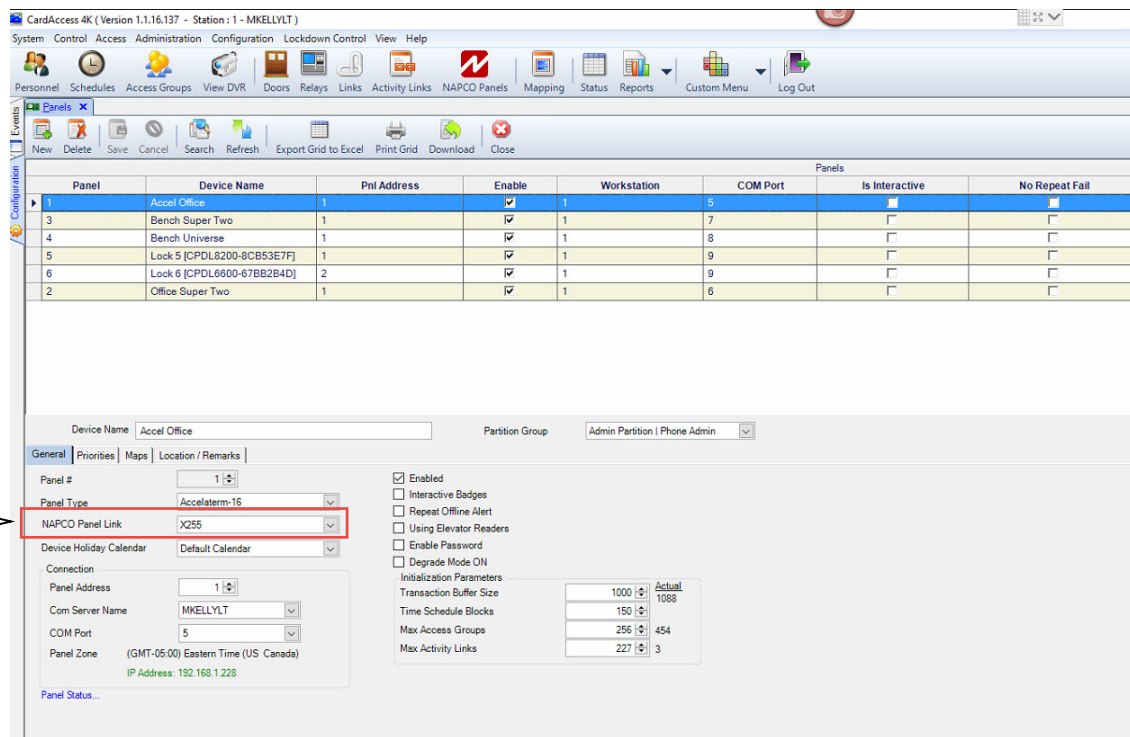

Figure 12.
8. Configure the **CA4K Panels** screen as follows (Refer to Figure 12).